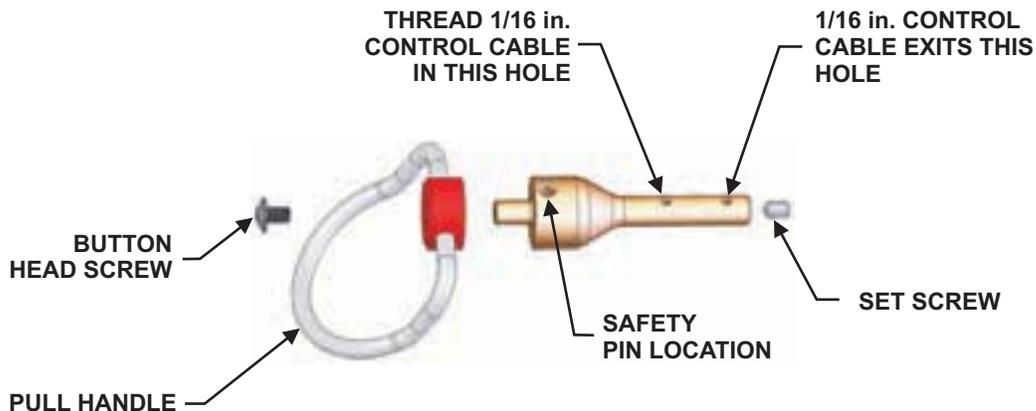

Figure 4-59. Remote Manual Release Pull Station Handle Assembly
7. Thread the detection line cable through the hole closest to the Handle Assembly. Loop the cable around and through the other open hole. See Figure 4-59.